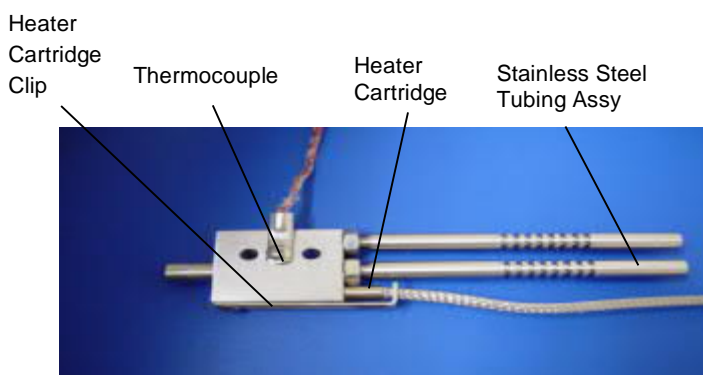

Figure 9.2 Heated Sonicair Nozzle Setup
For Part Number 350001: The insert is available with either a thru hole or a counter drilled hole. The thru hole style insert is the specified diameter all the way through the insert. The combinations of the insert size, insert type and end cap size determine the coverage characteristics. Refer to section 9.8 for the insert and end cap options. Figure 9.2 illustrates the different insert types.
9.4.1 Heating (Refer to figure 9.2)
The Sonicair Nozzle has no replaceable parts. Please contact IVEK Sales for information on ordering replacement Sonicair Nozzles. The following optional parts are available as shown in Figure 9.2.